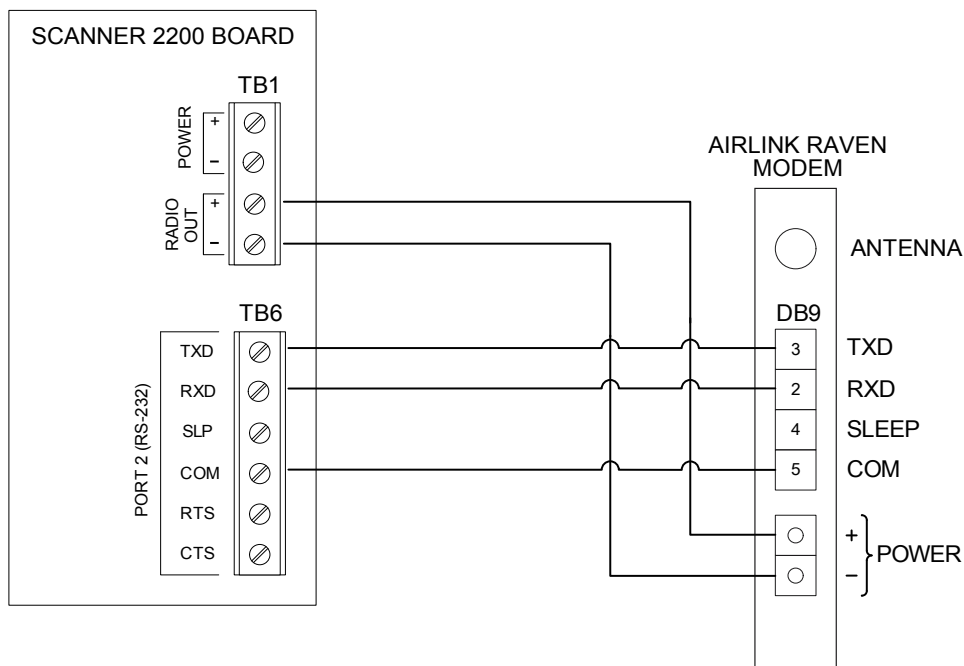

Figure B.5—AirLink™ Raven modem installation
7. Verify that the DB-9 cable is connected to Port 2 (TB6) as shown in Figure B.5, page B-8.
8. Connect the radio power cable to TB1 (Radio Out) on the CPU/display board as shown in Figure B.5, page B-8.